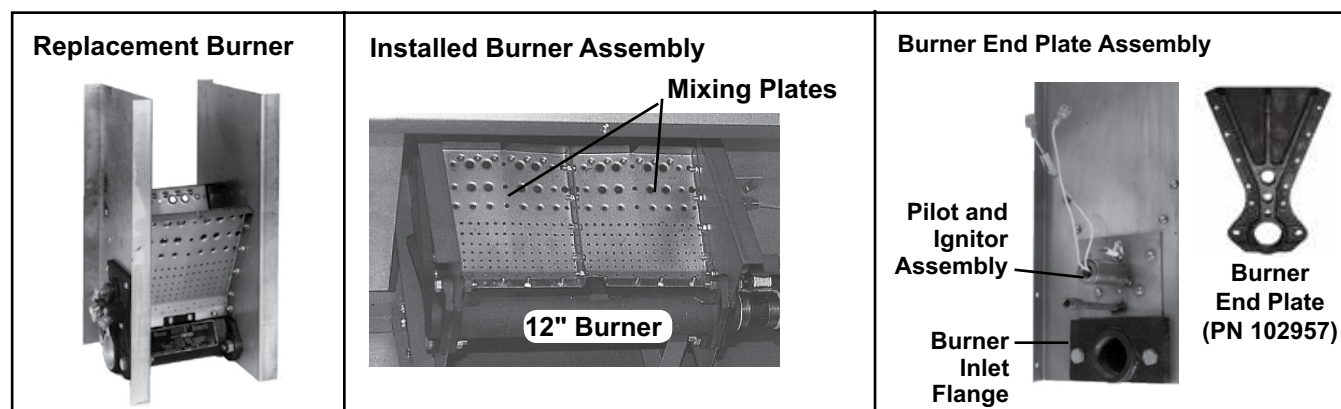

Figure 13. Burner Assembly—Units Manufactured *Before* SEP 2003
- Burner components for units manufactured *before* SEP 2003 are listed in Table 22 and shown in Figure 13.